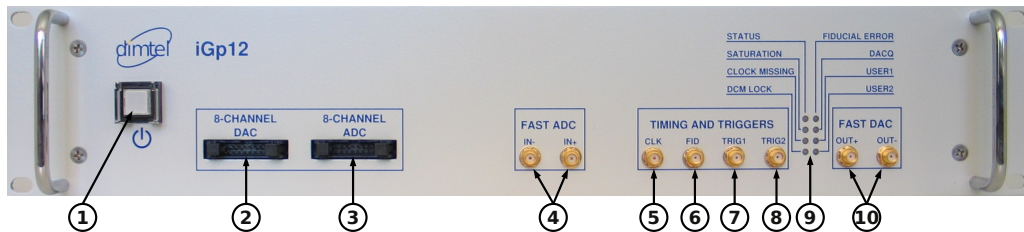

Figure 2: Front panel features
2. Connect RF clock at  $-3$  dBm nominal level (Fig. 2, item 5);
3. Connect single-ended high-speed ADC input signal to Ain+ (Fig. 2, item 4). The FS swing of this signal should be 780 mV peak-to-peak;
4. Connect a  $50\ \Omega$  terminator to Ain- (Fig. 2, item 4);
5. Connect high-speed DAC output(s) (Fig. 2, item 10) to the appropriate back-end unit;
9. Push the power button (Fig 2, item 1) to turn on the system;
11. Push the power button (Fig 2, item 1) to turn the system off;